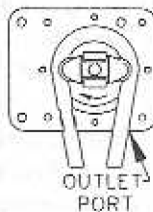

FIG. 5
9. Insert the tubing into the outer port (Figure 5) and replace the cover and screws.